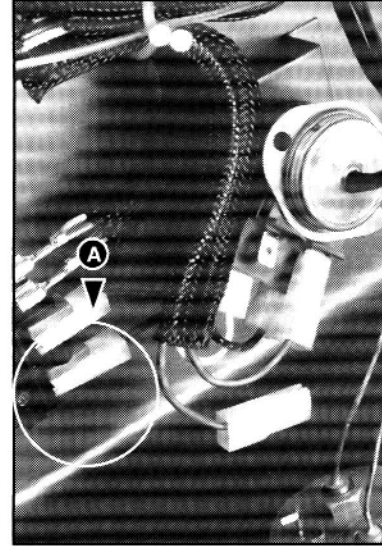

fig. 3.10
- 4 - Remove cables from terminals by loosening screws "A" (see fig.3.10);